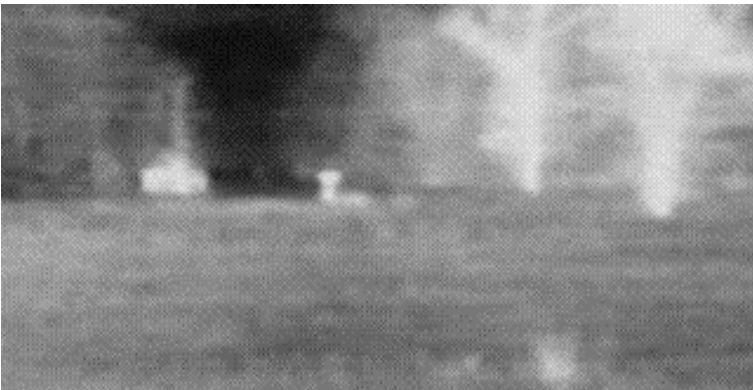

Figure 6-1-13: Tank in Falling Snow at 500 m
- b. white phosphorous (WP) smoke; and
43. **Diesel Fog.** Diesel fog (see Figure 6-1-13) acts as a strong obscurant for the optical sight and direct vision, but is a weak obscurant for the thermal imager.